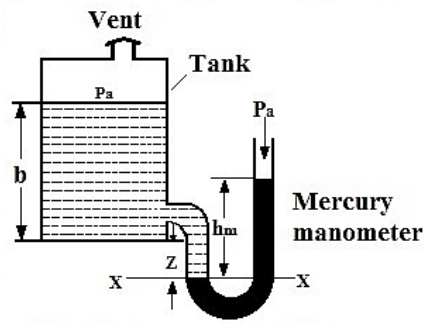

Fig. Q4B
- 4B Explain the method of level measurement to open – to – atmosphere tank using differential pressure transmitter. Modify the same for closed tank. Find the level of oil in the tank for the Fig. Q4B. Given: $h_m = 10\text{mm}$, $Z = h_m/2$, $P_a = 101.3 \text{ kPa}$, $\rho_{\text{oil}} = 800 \text{ kg/m}^3$, $\rho_{\text{mercury}} = 13600 \text{ kg/m}^3$.